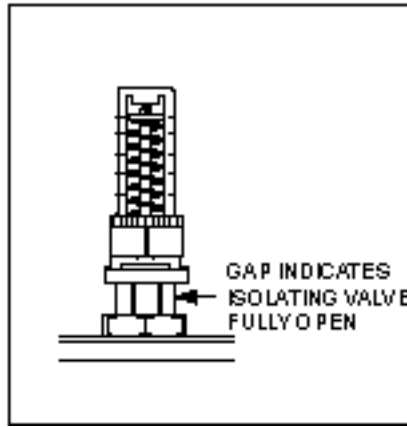

Figure 9b
- b) Open isolating part of valve fully by turning anti-clockwise (fig. 9b) NOTE: The gentle use of small grips may be necessary.